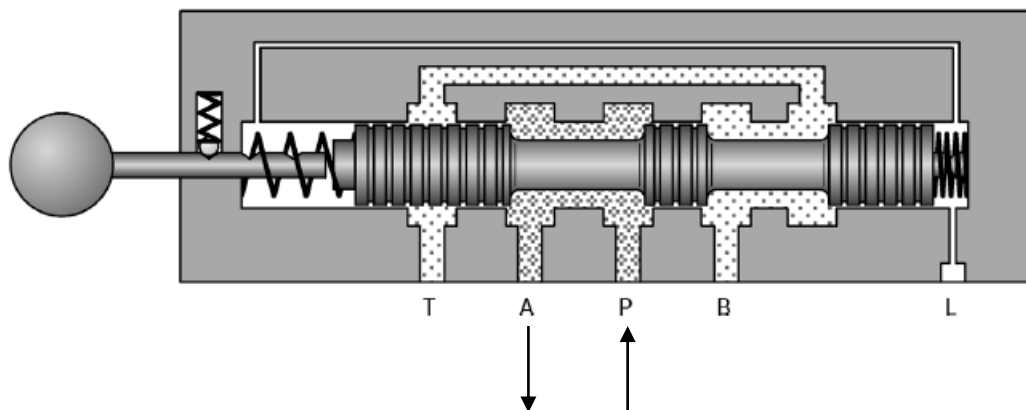
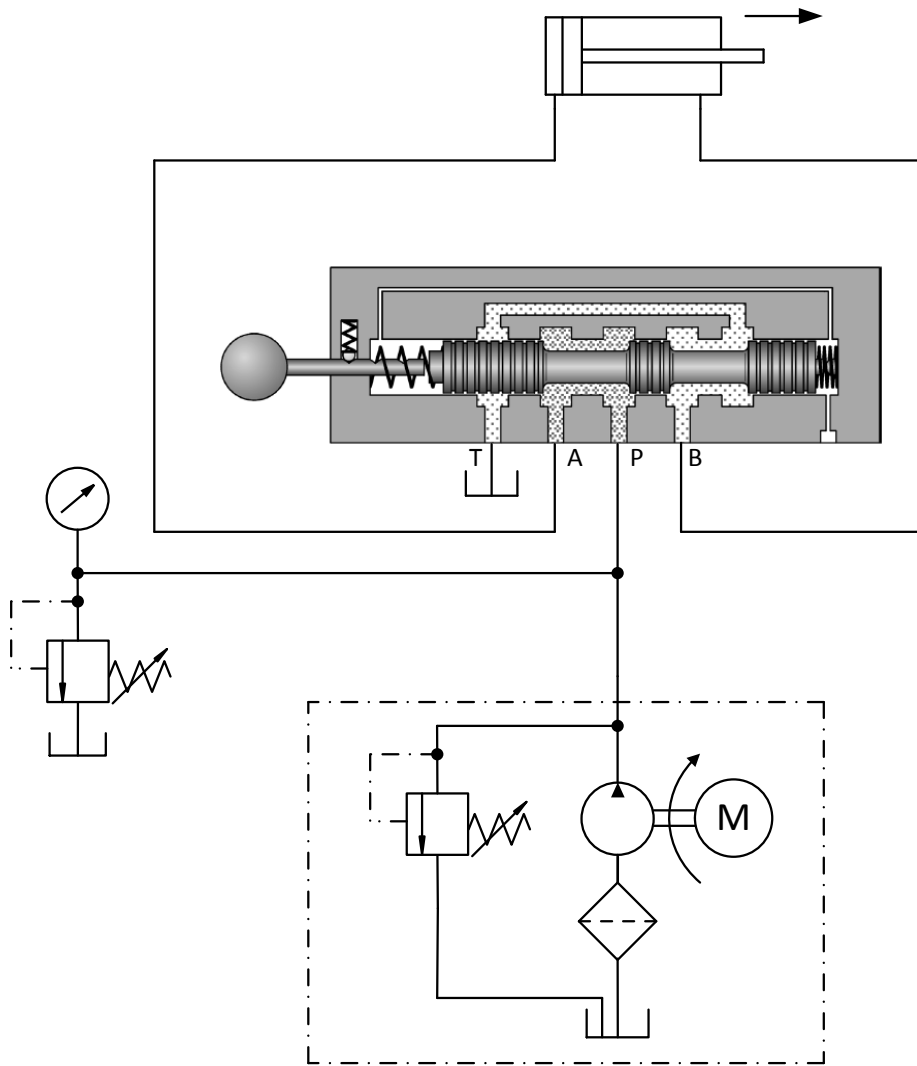

FIG 10.
FIG 11.
B. If the spool is moved into position “a”, the oil is directed to extend the piston rod of the cylinder. (Fig 10 and Fig 11 on the next page)